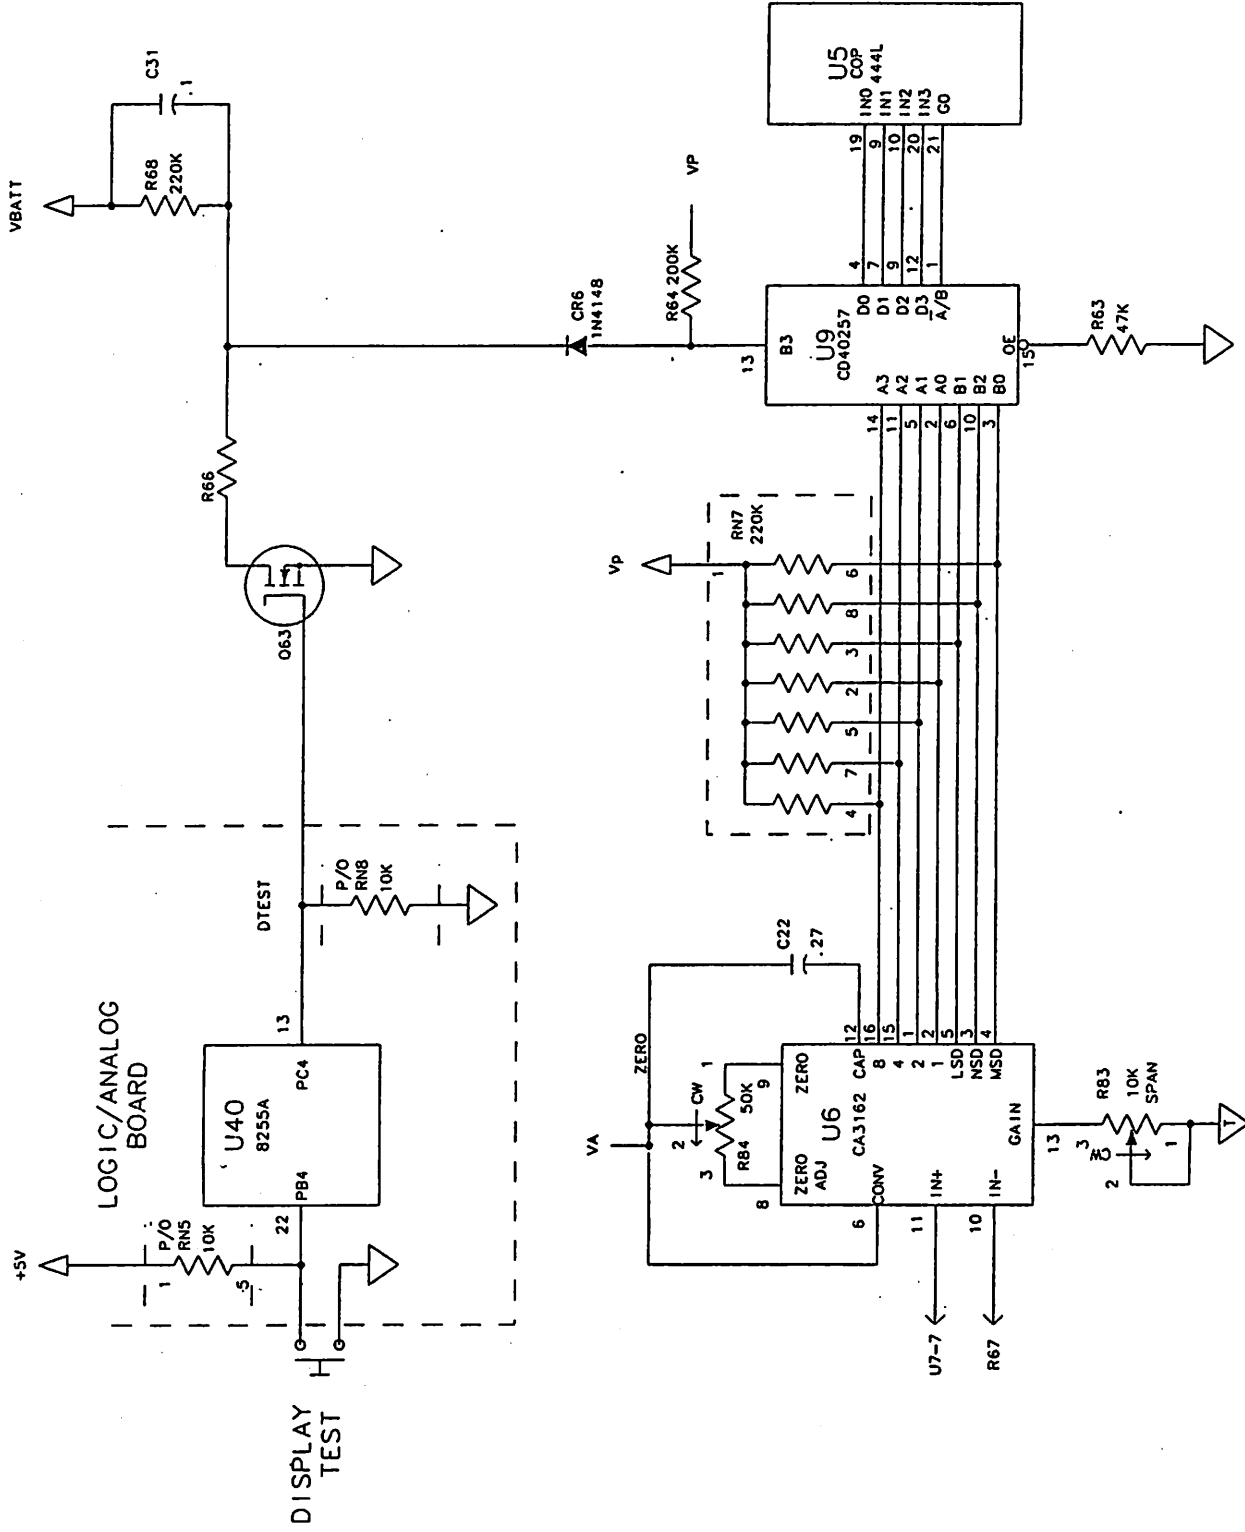

Figure 3-35. A/D Converter and Multiplexer
3.10.4 A/D Converter (U6, figure 3-35)
3.10.5 Multiplexer (U9, figure 3-35)